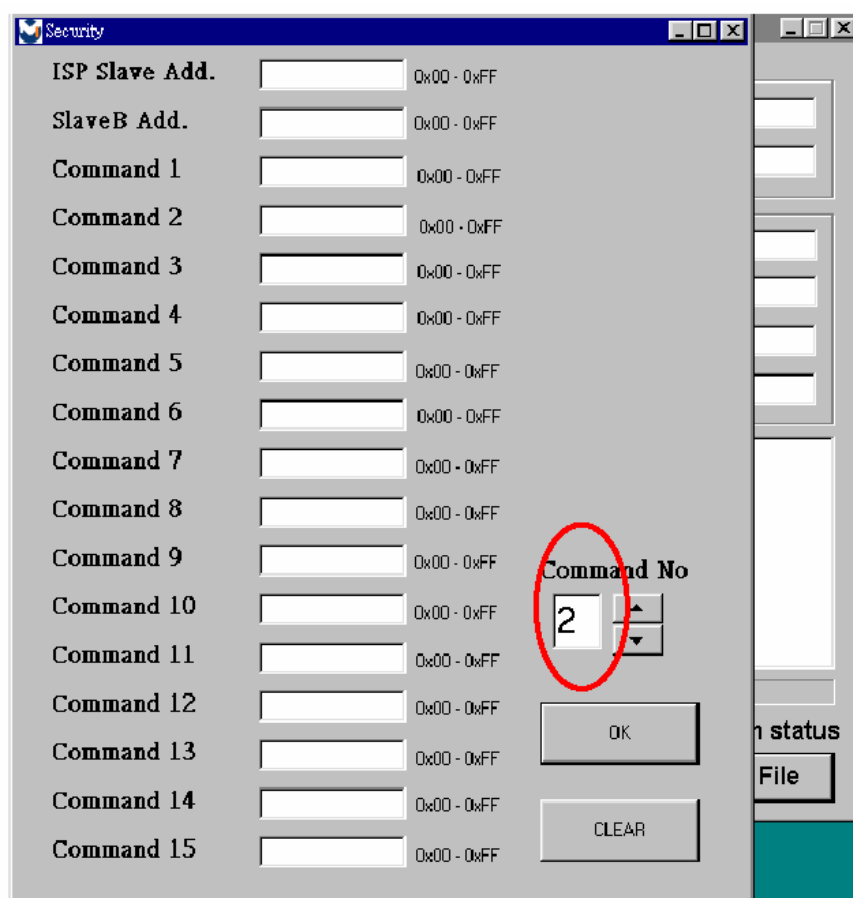

Fig 3.5
3.5 At least **2** Command No of security code, see Fig 3.5, and different security code between hardware ISP and software ISP. The security code of software ISP is set by user while coding, but the security code of hardware ISP is set by Myson Century.